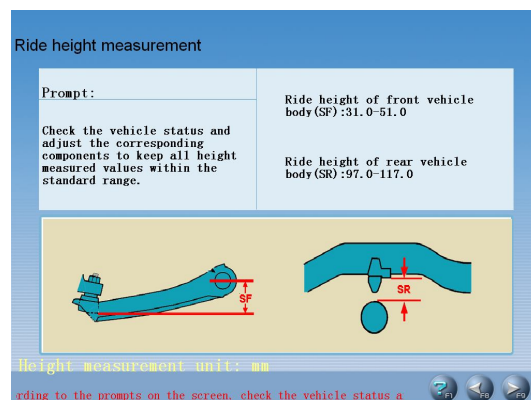

Fig.4.8
- When some special vehicle models (such as BMW 3 series) are selected, the screen will pop up an interface of [Ride Height Measurement] as shown in Fig.4.8. This interface provides an operating platform for ride height measurement system, in order to check if the ride height meets the design requirements of OEM.